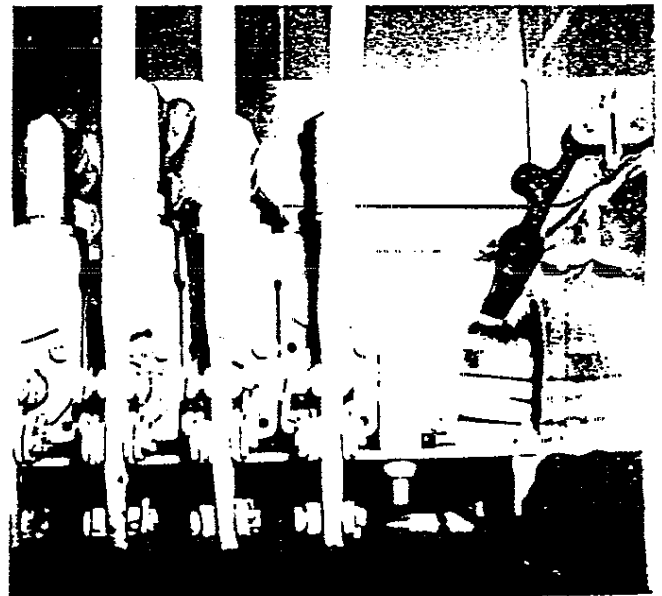

Figure C-6. Throttle Control Knob Installation
1. Using the throttle control bracket as a drill template, locate and drill two (2) 1/4" diameter holes as shown in Figure C-6. Install the 5/16-18 self-tapping screws.